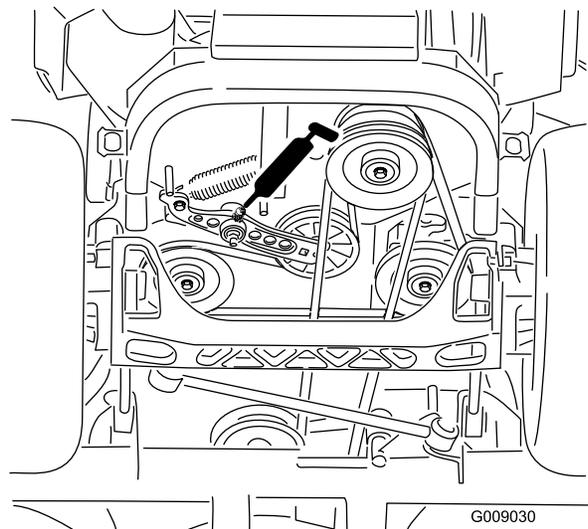

Figure 48
6. Grease the drive belt idler arm (Figure 48).